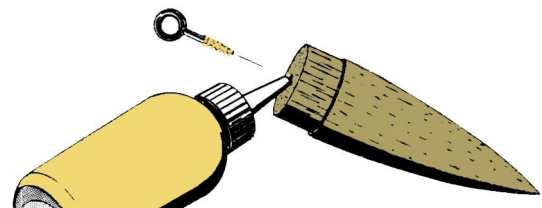

Figure 5
- **Step 7** Use the screw eye to cut threads into the base of the nose cone, then carefully reverse the screw eye out of the hole. As shown in Figure 5, apply glue to the threads of the screw eye, and force glue into the hole. Re-insert the screw eye until it bottoms out. Do not wipe away the glue that squeezes out. Let the glue dry with the nose cone pointed